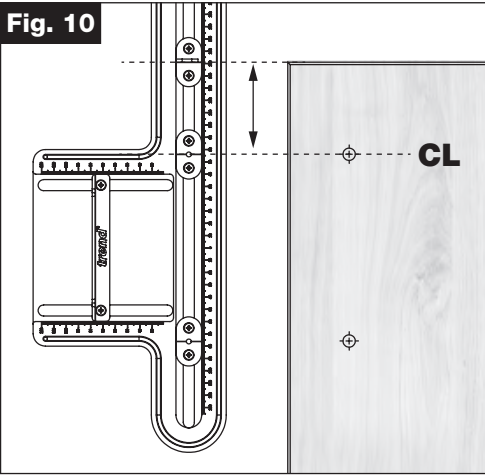

Fig. 11
- Calculate the required hole position of the handle/knob relative to the edge of the door/drawer, and position the Long Guide accordingly (Fig. 11).